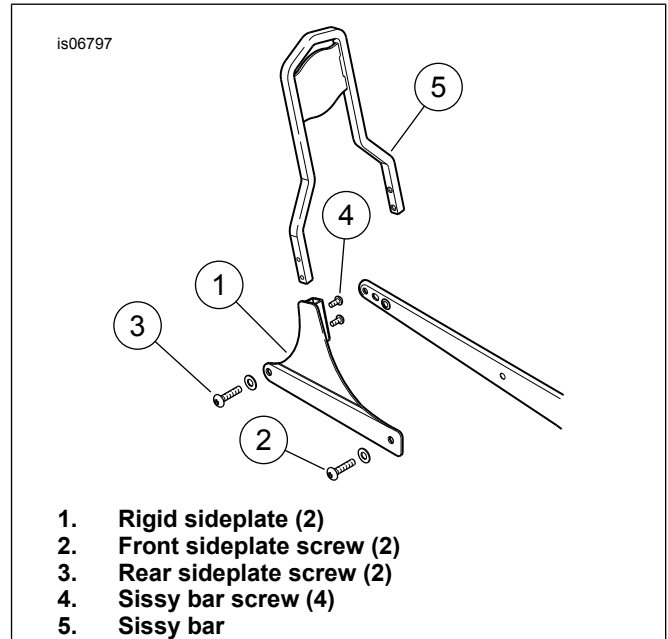

Figure 1. Rigid Sideplate - Softail Models
2. See Figure 1. **Loosen** front sideplate screws (2) from the sideplates (1).
3. Loosen and **remove** two rear sideplate screws (3) from the sideplates (1).
4. Raise sissy bar and sideplate assembly to gain access to screws (4) that secure the sissy bar (5) to sideplates.
9. See Figure 1. Apply Loctite 243 - Blue to the **clean** threads of the rear two sideplate screws (3) that attach rigid mount sideplates (1) to the motorcycle. Install rear two sideplate screws finger-tight.
10. Apply Loctite 243 - Blue to the **clean** threads of the front two sideplate screws (2) that attach rigid mount sideplates (1) to the motorcycle. Install front two sideplate screws finger-tight.